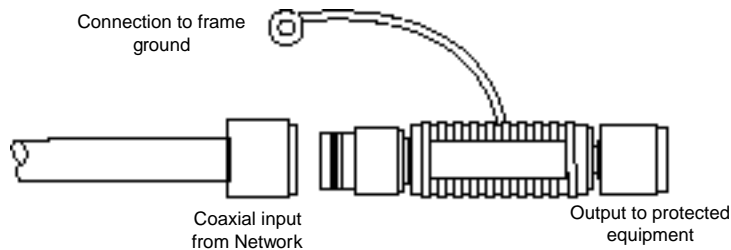
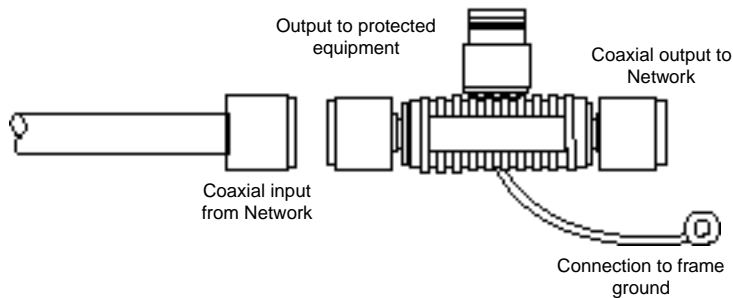

Figure 1. Model 545 MF connection
Figure 2. Model 545 MFF connection
2. Install the Model **545 MF** between the incoming coax line and the protected* equipment (see Figure 1, below). Install the Model **545 MFF** between the incoming and outgoing coax lines and connect the "T" to the protected equipment (see Figure 2, below). In both cases, you should place the surge protector as close as possible to the device being protected.